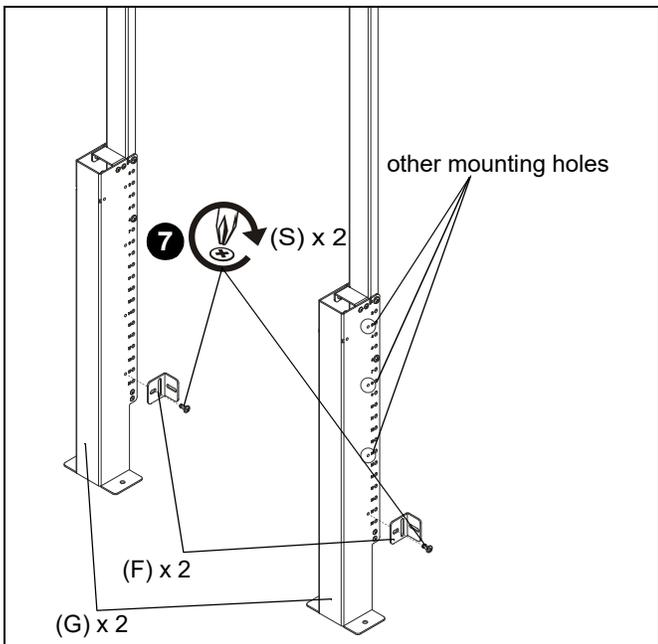

Figure 4
- Use #3 drill bit (V) and two 1/4-20 x 1/2" button head cap screws (S) to secure two wall brackets (F) to bottom uprights (G). (See Figure 4)
NOTE: Any of the four holes on each upright (G) can be used on either side depending on where uprights were attached to each other and/or component storage panel location. (See Figure 4)